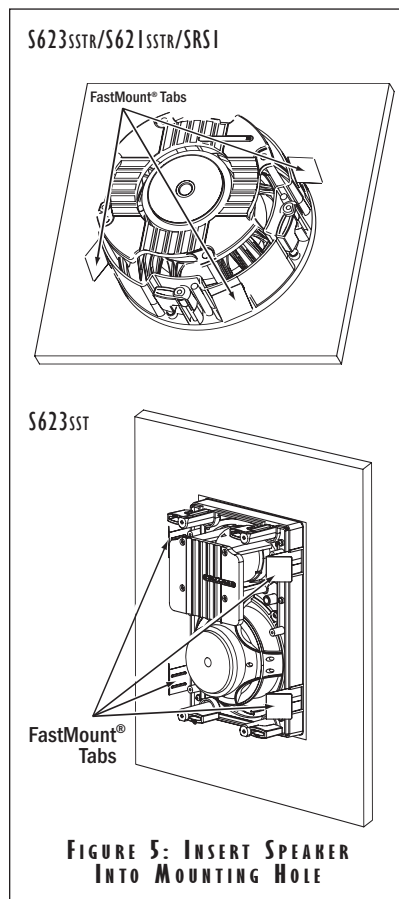

FIGURE 5: INSERT SPEAKER INTO MOUNTING HOLE
5. Make sure all the RotoLock clamps are in the full clockwise position so that they are tucked within the mounting hole's border. Insert the speaker into the hole in the wall or ceiling (Figure 5). The RotoLock system can accommodate a maximum wall or ceiling material thickness of 1¼".